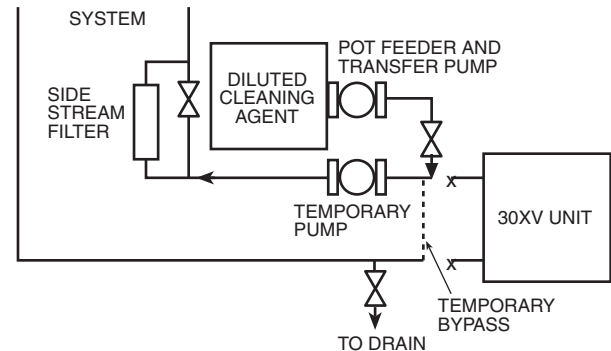

Fig. 46 — Cleaning Using a Side Stream Filter
- c. A side stream filter is recommended (see Fig. 46) during the cleaning process. Filter side flow rate should be enough to filter the entire water volume every 3 to 4 hours. Change filters as often as necessary during the cleaning process.